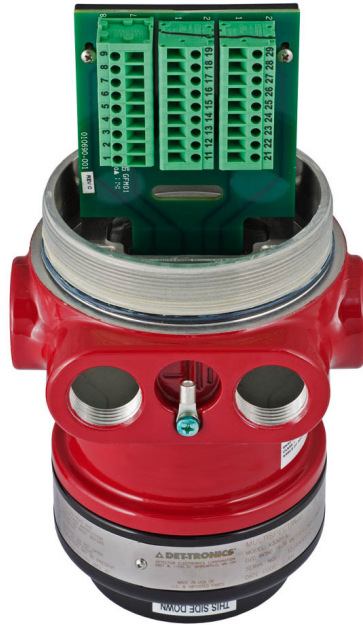

Figure 4—X33AF Terminal Block
- Figure 4 shows the wiring terminal strip located inside the detector's integral junction box.